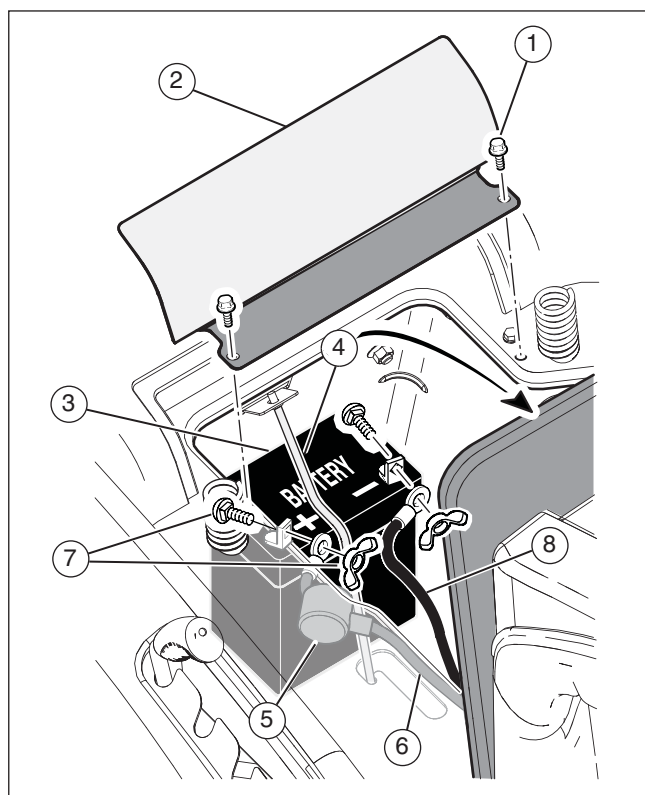

Figure 6
2. Remove two screws (1) and battery cover (2) (see **Figure 6**).
3. Check the side of the battery (3) for the location of the battery date.
1. To disconnect the battery retainer (4), push in on the lower end of the battery retainer (see **Figure 6**).
2. Remove the battery (3) from the opening between the engine and the seat support.
1. Remove the protective caps from the battery terminals (see **Figure 6**).
2. Slide the terminal boot (5) onto the red cable (6).
3. Connect the red cable to the positive (+) terminal with the fasteners (7).
4. Connect the black cable (8) to the negative (-) terminal with the fasteners (7).
5. Install the battery cover (2) with the two screws (1).